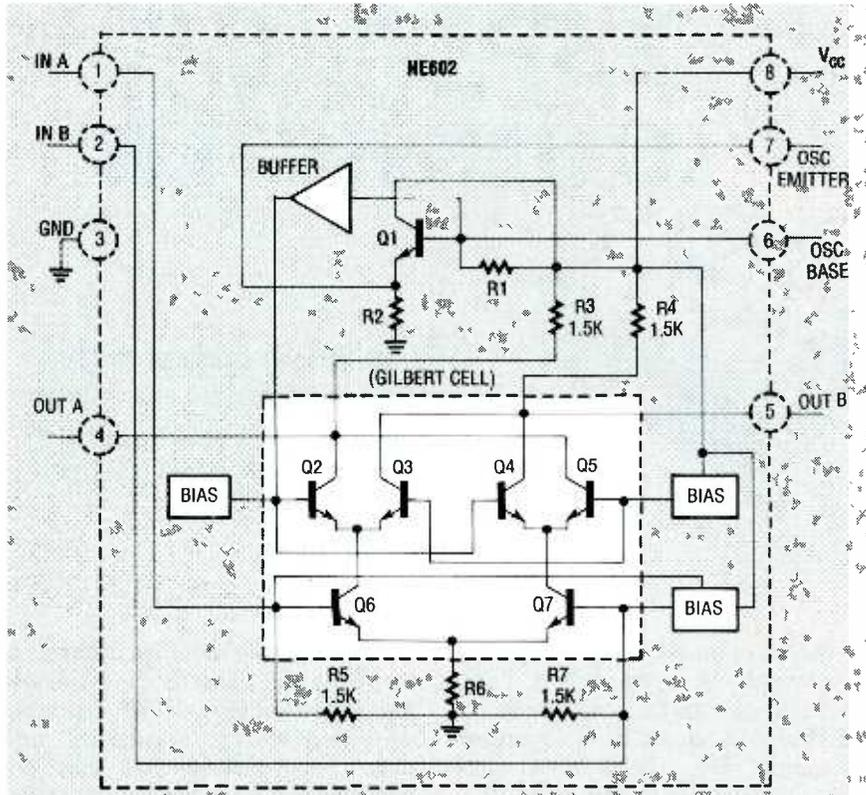
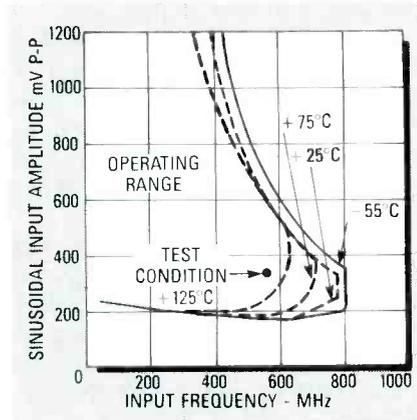

FIG. 2.—NE602 EQUIVALENT CIRCUIT WITH PINOUTS. The combination of differential amplifier Q6-Q7 and mixers Q2-Q3 and Q4-Q5 is called a Gilbert cell.
FIG. 3—SENSITIVITY OF IC1 AS A FUNCTION of sinusoidal input amplitude in mV p-p vs. frequency, for -55°C , 25°C , 75°C , and 125°C .
FIG. 1—TYPICAL BRIDGE RECTIFIER, with voltage waveform shaped by an LC filter network. If only a pure resistive network were connected across points A, the waveform shown in Fig. 2-a would be seen with the aid of an oscilloscope.
tion, or the unwanted generation of power-line voltage components at frequencies that are multiples of 60 Hz. Linear loads that draw power in proportion to the square of voltage exhibit far fewer problems. With rectifiers, however, strange things start happening to current waveforms. Figure 1 shows a full-wave bridge rectifier, while Fig. 2 shows the relevant voltages and currents.
The voltage across points A and C in Fig. 2-a is a full-wave, rectified sinusoid provided that only a purely resistive load were connected. Across points B and C, the LC filter produces the waveform shown in Fig. 2-b. The current from the bridge rectifier charges capacitor C1 for a small portion of each half cycle as shown in Fig. 2-c, and it supplies power to the load during that brief period. Capacitor C1 provides the power that drives the DC load for the remainder of the half cycle. Inductor L1 smooths the sharp points in the rectified voltage curve at *b*, but its effect on the following discussion is nil.
As the rectifier voltage drops to zero, the charge in C1 drives the DC load. Thus, current flows through transformer T1 for only a small portion of the sinusoid, as shown in Fig. 2-c, driving the DC load and recharging C1, so the energy is concentrated in short pulses. This pulsed current generates harmonics, making a transformer run hotter than it would for a pure 60-Hz sinusoid with RMS power identical to that of the corrupt
FIG. 2—VOLTAGE AND CURRENT WAVEFORMS at different points in the power supply. At (a) is the voltage exiting the bridge rectifier, presuming either a resistive load or no load at all, instead of the LC filter; at (b) is the voltage exiting the LC filter, and at (c) is the current drawn through the transformer.
Building a frequency converter is easier now than it's ever been because of a new IC, the Signetics NE602. The NE602 contains an LO and double-balanced mixer in an 8-pin DIP, as shown in Fig. 2, a block diagram of the IC. The NE602 was originally designed for VHF receiver front ends, since the LO works up to 200 MHz, and the mixer to 500 MHz. However, it has plenty of uses at lower frequencies as well, and this article will explore them.
shown in Fig. 2. S1 either DC-couples the input through R1, or AC-couples it through C1. The center pole of S1 goes to the clock-pulse input (CP) of IC1, a National Semiconductor 11C90 prescaler. The 11C90 is an ECL divide-by-10 prescaler, uses +5 volts, has TTL-output, and operates over a DC–650 MHz bandwidth with only an RF-bypass capacitor on V_{CC}. Input sensitivity for AC-coupling is 350 mV p-p from DC–100 MHz, and 250 mV p-p above 100 MHz. The frequency response of the 11C90 is shown in Fig. 3, but that's the guaranteed minimum, and actual performance can exceed it substantially. S2 is located between the frequency counter and the LED display, and selects between the frequency- and period-measurement modes.
Figure 3 shows several waveforms and timing relationships for a color-bar input signal at several points in the circuit: (a) The